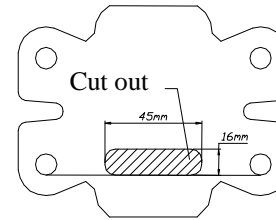

Fig. 2
3. In rear slice make elongated holes according to figure 2.
4. To made holes put jibs with nuts (pos. 4).
5. To chassis members put main bar of the towing hitch (pos. 1) and fix by bolts M10x35mm (pos. 9) with jibs.
6. Through holes (pos. A) and holes in rear slice twist bolts M10x35mm (pos. 9) using big washers (pos. 6).